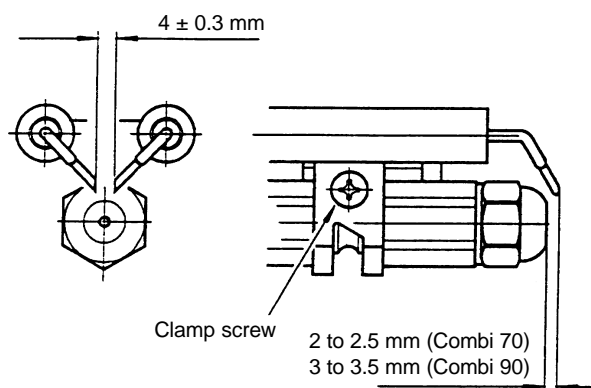

Fig. 35 (Combi 90 shown)
- 2 Remove the baffles, noting their position (see Fig. 35).
**Check the electrode settings** - Electrode tips approximately 4 mm apart and 2 to 2.5 mm (Combi 70) or 3 to 3.5 mm (Combi 90) in front of the nozzle, see Fig 35.
electrodes away from the nozzle. Remove the nozzle using a good fitting spanner (16 mm). The use of an ill-fitting spanner will damage the nozzle and could lead to an incorrect flame pattern. Always check the electrode settings after replacing the nozzle, see Fig. 35.